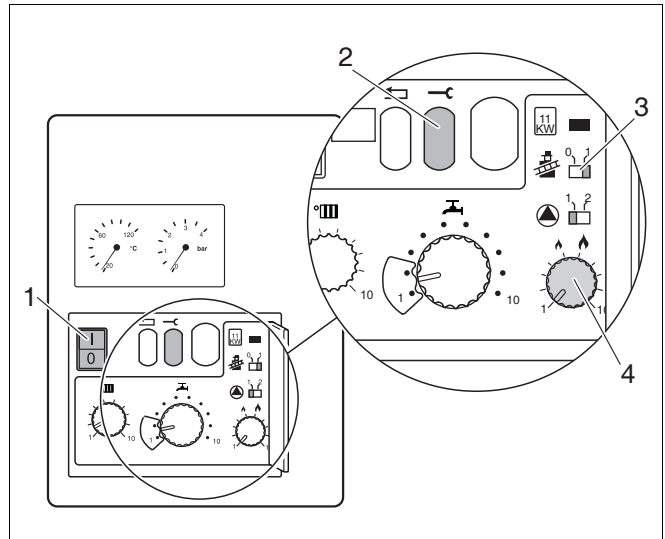

Fig. 82 Check the default gas-air ratio settings
- Set mains switch (fig. 82, item 1) and chimney-sweep switch (fig. 82, item 3) to "0".
- When the burner has fired (after approx. 30 seconds), push the service button (fig. 82, item 2) and keep it pressed until "Y" is shown on the display.
- Set the heating-capacity controller (fig. 82, item 4) to "1".